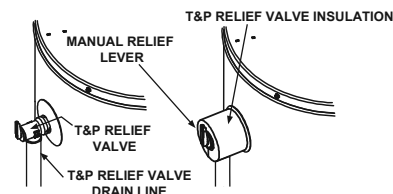

FIGURE 25.
1. Locate the temperature and pressure relief valve on the water heater (also known as a T&P relief valve). See Figure 25.
3. Spread the slit open and fit the insulation over the T&P relief valve. See Figure 25. Apply gentle pressure to the insulation to ensure that it is fully seated on the T&P Relief Valve. Once seated, secure the insulation with duct tape, electrical tape, or equivalent. **IMPORTANT:** The insulation and tape must not block the discharge opening or hinder access to the manual relief lever (Figure 25). Ensure a discharge pipe is installed into the T&P valve discharge opening per the instructions in this manual.